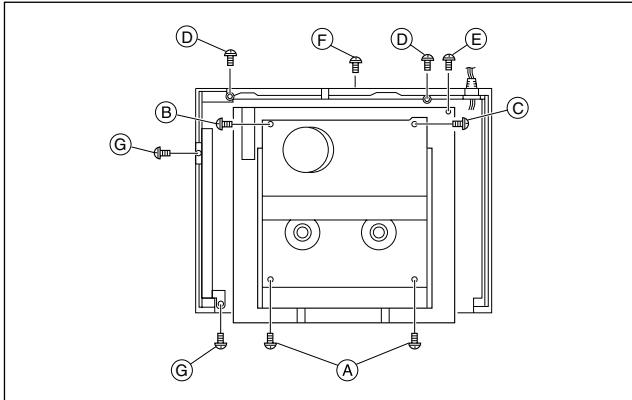

Fig. 1-4-1
- (3) Take out 2 screws (A), 1 screw (B) and 1 screw (C) as shown in Fig. 1-4-1.
- (4) Remove the flat wires from CN3011, CN6102, CN901 and CN902 on the Main board assembly.
- (5) Remove the flat wire from CN513 on the S-Sub board assembly.
- (6) Take out 2 screws (D), 1 screw (E) and 1 screw (F) as shown in Fig. 1-4-1.
- (7) Take out 2 screws (G) as shown in Fig. 1-4-1. Then remove the P/S Converter board assembly.
- (1) Remove the Top cover, Bracket, Front panel assembly and Jack board assembly. (Refer to 1.3 DISASSEMBLY/ASSEMBLY METHOD.)
- (2) Lower the cassette holder, and make the preparations required in order to remove the screws from the Mechanism assembly. (Refer to the "Procedures for Lowering the Cassette holder assembly" on page 1-2 of 1.3 DISASSEMBLY/ASSEMBLY METHOD.)
- (3) Take out 2 screws (A), 1 screw (B) and 1 screws (C) as shown in Fig. 1-4-1.
- (4) Remove the flat wires from CN3011 and CN6102 on the Main board assembly.
- (7) Take out 2 screws (G) as shown in Fig. 1-4-1, and remove the P/S Converter board assembly.